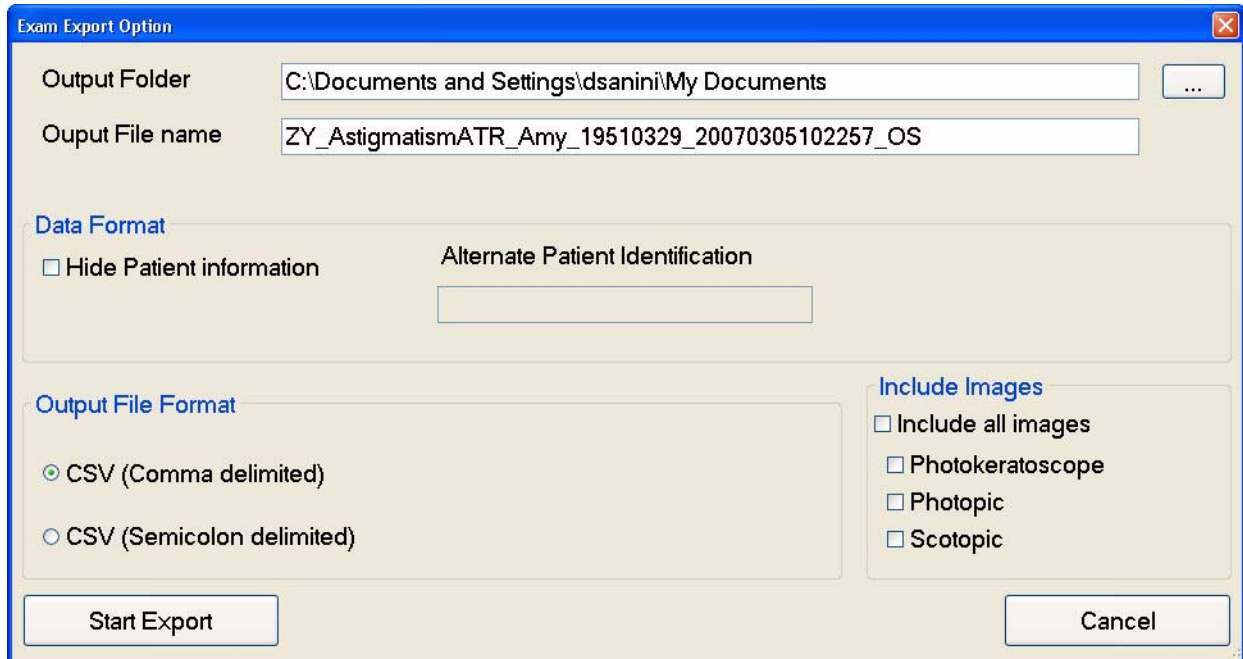

Figure 11-30 Exam Export Option Dialog
1. While in patient selection mode, select the patient and exam you want to export and click **File > Export > For Research**. The Exam Export Option dialog appears (Figure 11-30).